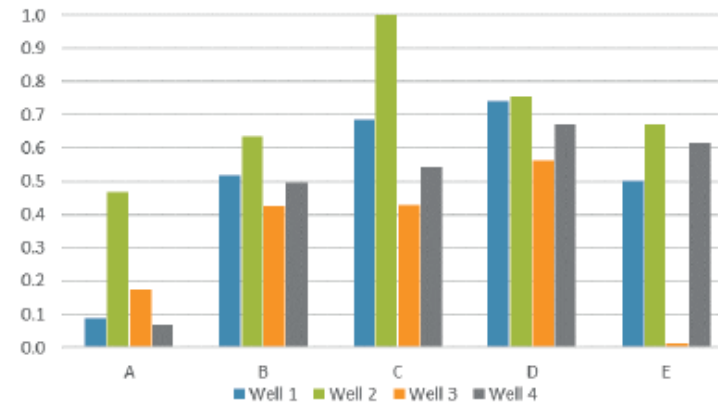
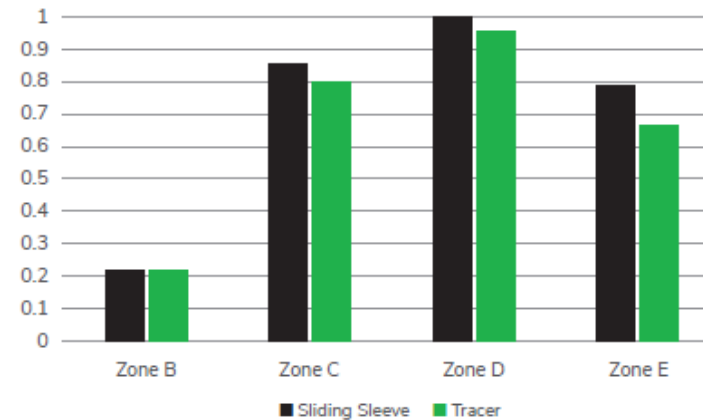

Figure 1a - Zonal Contribution Ratio (Oil) by Wellbore.
Figure 2 - Sliding Sleeve vs Tracer
A test of zonal contribution in a well installed with sliding sleeves was carried out with data shown in Figure 2. Production was isolated to each zone by mechanically closing all but one sleeve for a two week period. Flow from zone A was blocked by a bridge plug during this testing. Flow rates were then compared.
- The comparison of oil production measured with open sleeves and tracer technology is shown in Figure 2. Agreement between the methods was confirmed and was consistent with zonal production measurement in Figure 1a.